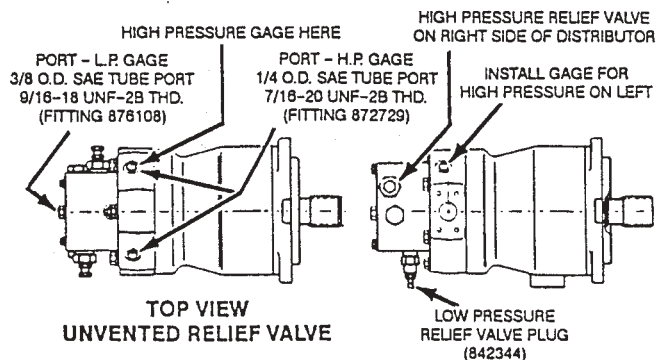

Figure 36. Generation II Motor
4. Remove low pressure relief valve cartridge from motor cover (see Figure 36.) and install blanking plug.
1. Install gauges in the high pressure ports of the motor (see Figure 36.).